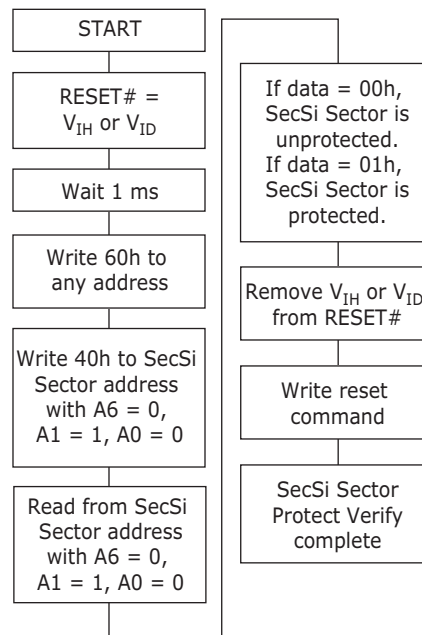

Figure 3. Secured Silicon Sector Protect Verify
- To verify the protect/unprotect status of the Secured Silicon Sector, follow the algorithm shown in Figure 3.